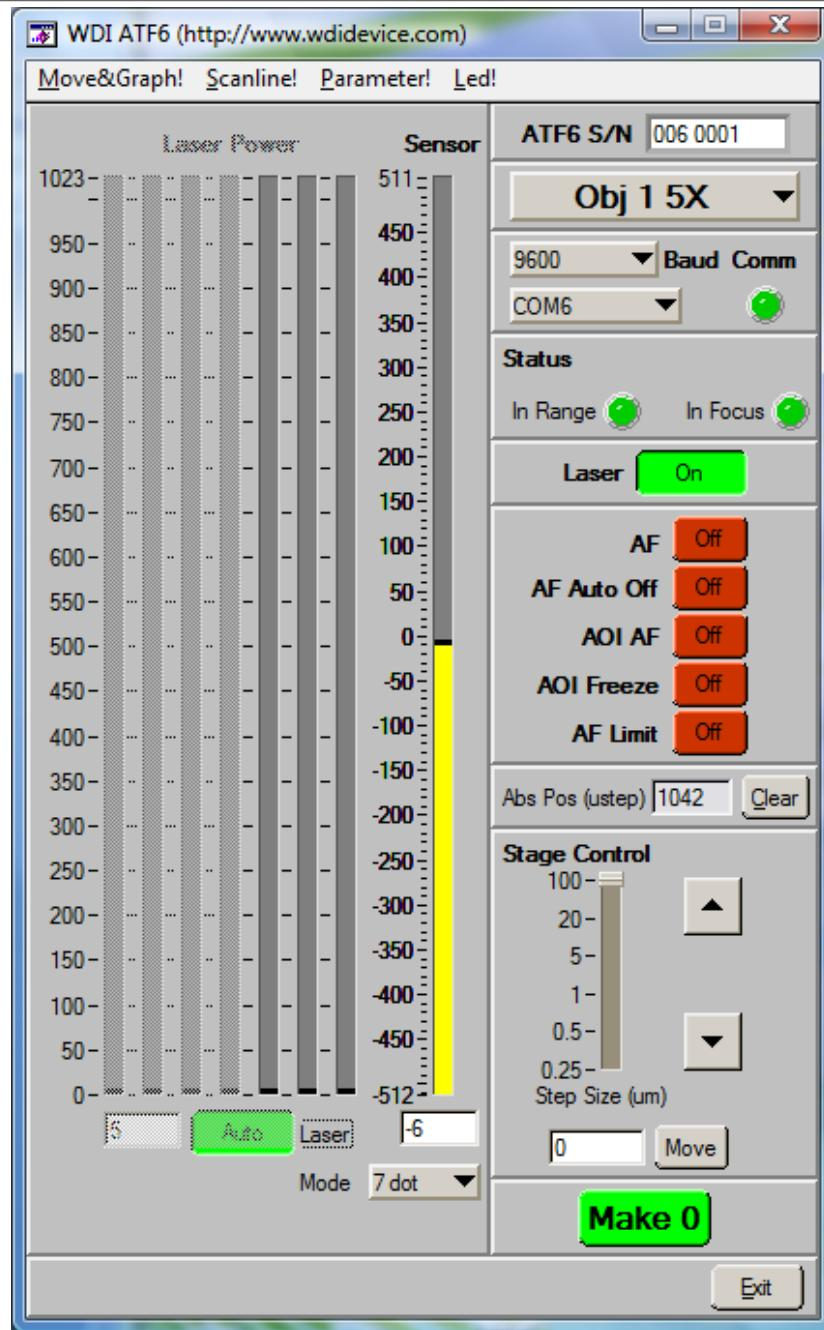

Figure 4-5 ATF_Test Main window
- Select the communication port (main screen drop-down menu) to which the sensor is connected, as shown in [Figure 4-5]. Put the specimen under the microscope.